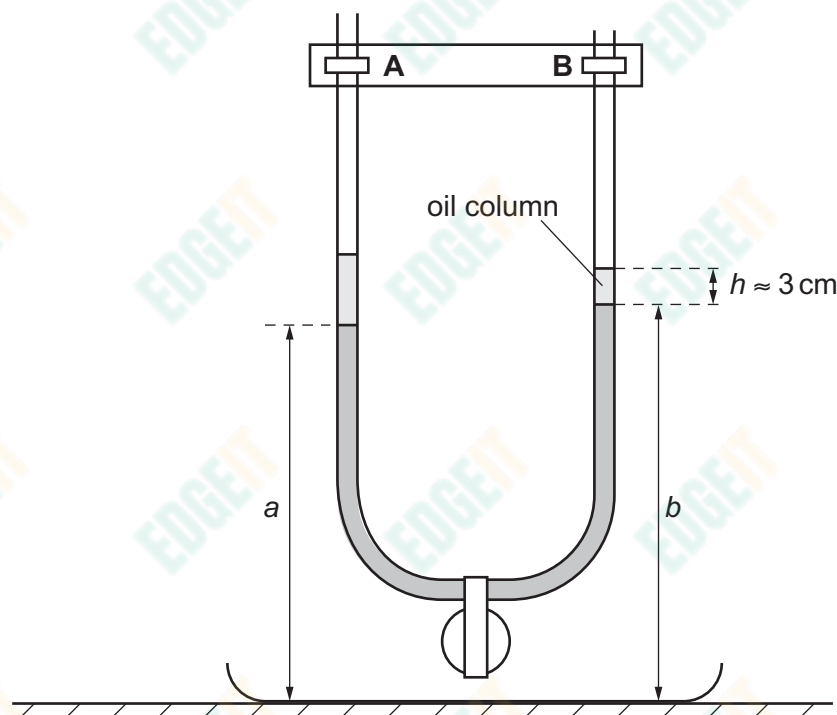

Fig. 1.3
- (ii) • Use the pipette to slowly put oil into **B**. Wait to allow the oil to reach the water surface. The final length of the oil column above the water in **B** is h . Continue adding oil until h is approximately 3 cm, as shown in Fig. 1.3.
- The height of the water level in **A** is a , and the height of the water level in **B** is b , as shown in Fig. 1.3.